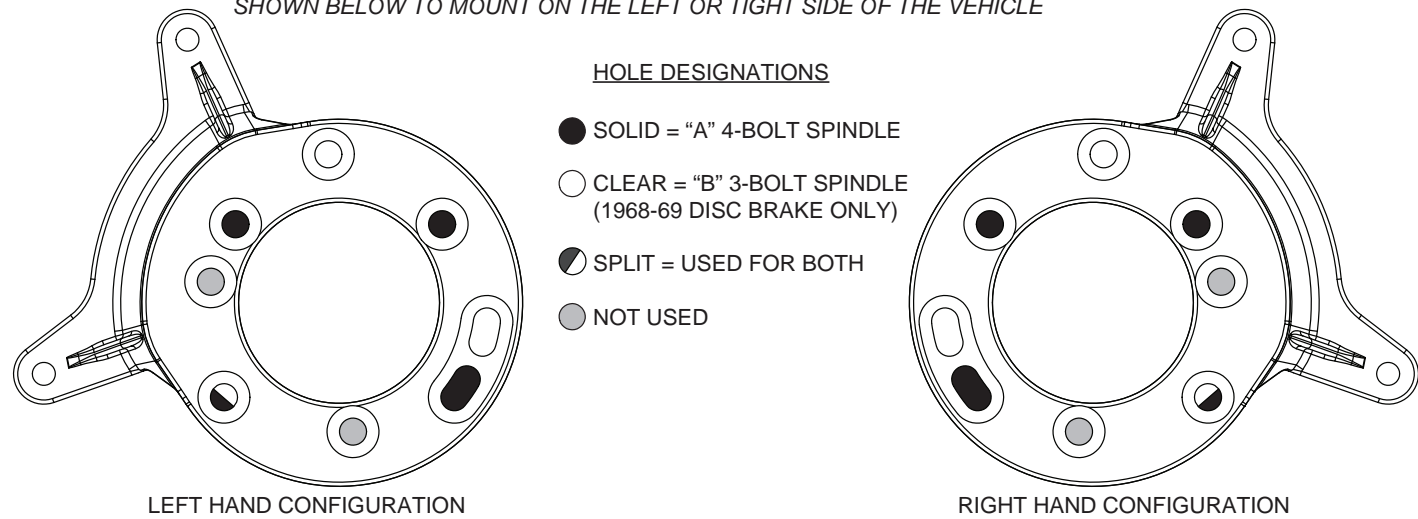
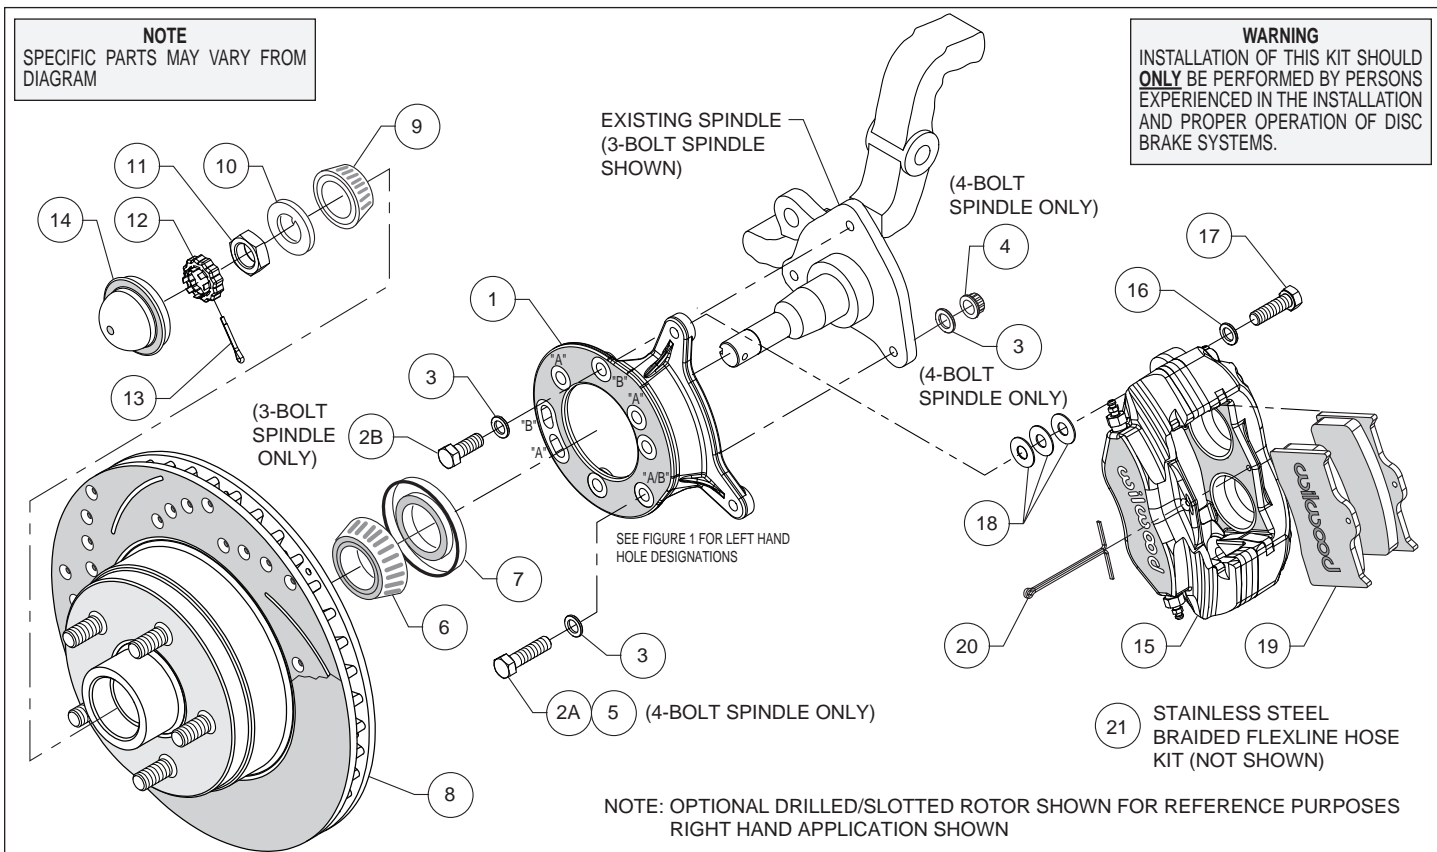

Figure 1. Wilwood Caliper Mounting Bracket
Figure 4. Typical Installation Configuration
This kit has been designed for use with both three and four bolt spindle configurations. The only difference is in how the Wilwood caliper mounting bracket is installed. The same bracket is used for both configurations; only the 1968-69 disc brake spindle utilizes three mounting holes while all other spindles use the four mounting holes (see Figure 1). For your convenience we have supplied bolt kits for both applications (see parts list and Figure 4 as necessary). Use the bolt kit that is applicable to your vehicle and disregard the other one.
**Assembly Instructions** (numbers in parenthesis refer to the parts list, and Figure 4).
•**NOTE:** This kit uses the same mounting bracket (1) for both the three and four bolt brake spindles. The 4-bolt version, Photo 1, uses four mounting bolts (designated "A"), while the 3-bolt version, Photo 2, uses three (designated "B"). Refer to Figures 1 and 4 for the basic installation position of the bracket and the "A" and "B" reference designations (not physically marked on the brackets).
**For 4-Bolt Spindle:** Align bracket, using the four "A" holes, to the face of the spindle and attach using bolts (2A and 5), washers (3), and lock nuts (4), as shown in Figure 4 and Photo 1. Torque lock nuts to 30 ft-lb.
**For 3-Bolt Spindle (1968-69 Disc Brake):** Align bracket, using the three "B" holes, to the face of the spindle and attach using bolts (2B) and washers (3), as shown in Figure 4 and Photo 2. Finger tighten. Remove bolts one at a time, apply red *Loctite*® 271 to threads, and torque to 40 ft-lb.
•Pack the large inner bearing cone (6) with high temperature disc brake bearing grease (available from your local auto parts store) and install into the backside of the hub (8), Photo 3.
•Install the grease seal (7) by pressing into the backside of the hub (8), flush with the end of the hub.
•Pack the small outer bearing cone (9) with high temperature disc brake bearing grease and install into the front side of the hub (8). Slide the hub/rotor onto the spindle. Secure using spindle washer (10) and spindle nut (11). Adjust bearings per OEM specifications. Install spindle nut retainer (12) and a new cotter pin (13), Photo 4.
•Press the dust cap (14) into hub (8), Photo 5.
•Mount the caliper (15) onto the caliper mounting bracket (1) using bolts (17) and washers (16), as shown in Figure 4. Initially place three .035" thick shims (18) on each bolt between the caliper and the bracket, Photo 6. Temporarily tighten the mounting bolts and view the rotor (8) through the top opening of the caliper. The rotor should be centered in the caliper, Photo 7. If not, adjust by adding or subtracting shims between the bracket and the caliper. Always use the same amount of shims on each of the two mounting bolts. Once the caliper alignment is correct, remove the bolts one at a time, apply red *Loctite*® 271 to bolt threads, and torque to 40 ft-lb.
•Install the disc brake pads (19) into the caliper, with the friction material facing the rotor (8), Photo 8. Secure in place using cotter pin (20), Photo 9.